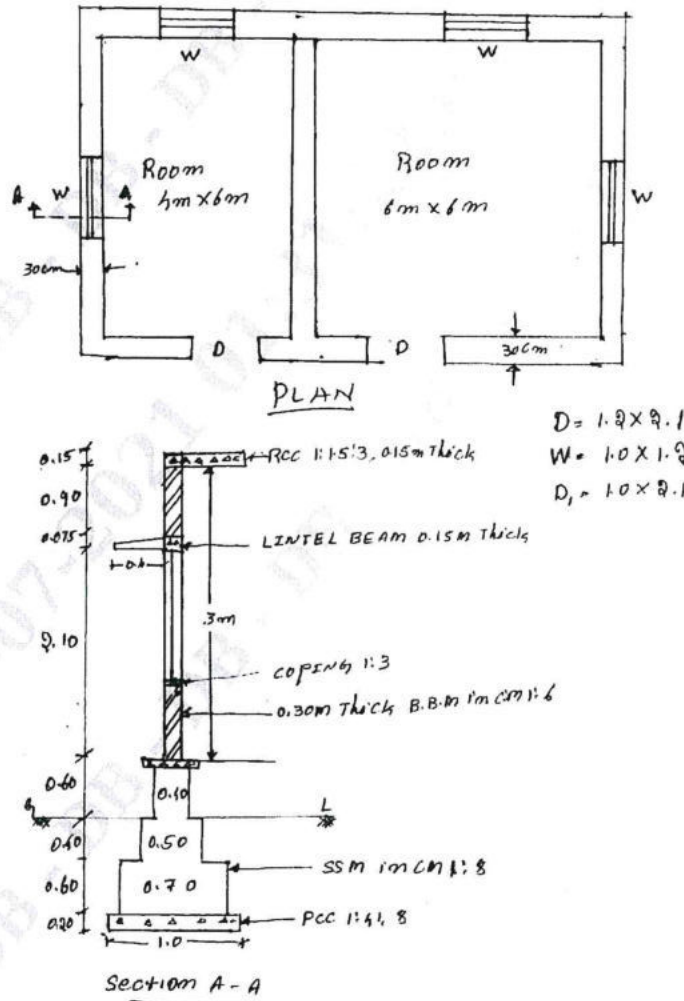

Fig.Q2
- 2 The details of two room building are shown in the Fig.Q2. Estimate quantities and cost of the following items of work: